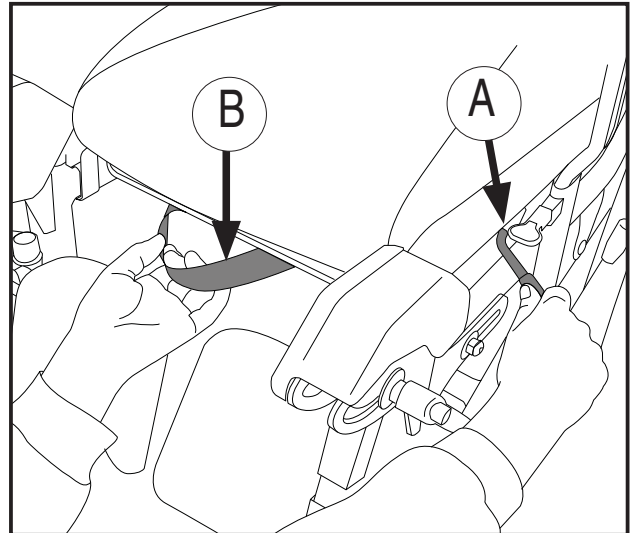

Figure 12
## Sliding seat *Figure 12*
- Use the sliding seat to move the user as far forwards in the chair as possible (see Figure 12, page 9)